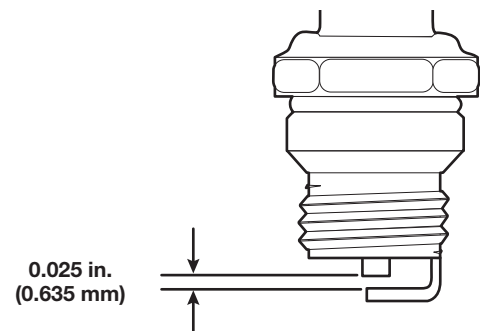

Fig. 11
4. Use a feeler gauge to set the air gap at **0.025 in. (0.635 mm)** (Fig. 11).